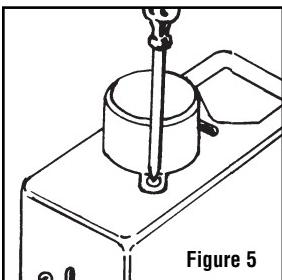

Figure 5
- B. If control is a "KC" model (knob cover), remove knob cover as in Figure 5.